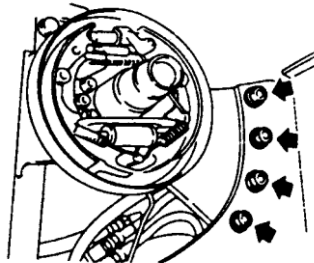

Fig.2-7
- j) Remove bolts securing axle mounting bracket to frame. (see fig.2-7) .